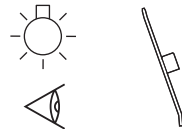

Fig. 18
- 2 Visually check that all contamination is removed (Fig. 18). In case there is residual contamination, repeat the procedures of Pre-cleaning through Purging until all contamination is removed. Proceed to Checking (Refer to "10-4 Checking").